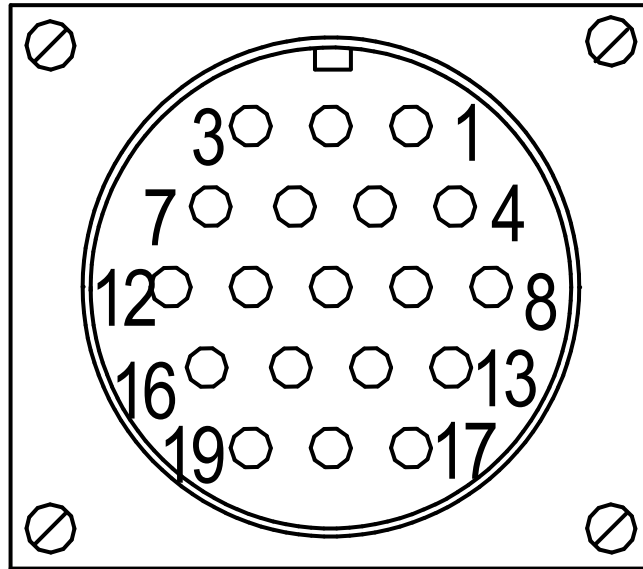

Figure 4 – Connection diagram
- cable №1 - for connecting of DL-20 to external power source 12 V and to the external control device (ECD) 3 of the User or to the personal computer. TRM has one socket for connection of a cable 1. Electric connection of a cable 1 to TRM is carried out as per the scheme of connections (figure 4) and table 3 taking into account requirements of item 2.2.2 "the Order of laser rangefinder module installation on object ". Laser rangefinder module control is carried out with ECD of the User or from a personal computer. Laser rangefinder module operation mode is set by control commands.
2.2.2.2 Plug in user's cable of necessary size to port X1 of the TRM body using socket 2PM24KIIH19Г1B1 and assignment of contacts stated in table 2.1 and in Figure 4.